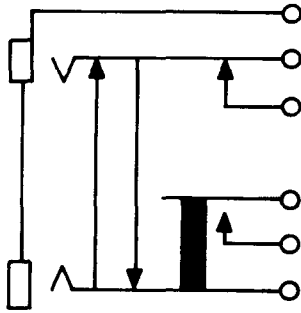

Fig. 8—440A Jack
- (a) **440A:** The 440A jack (Fig. 8) is arranged to be used with the 347-type plugs.